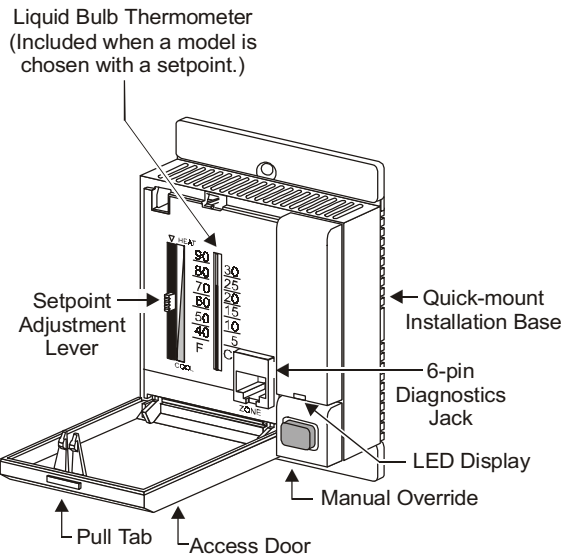

Figure 8: Accessing the Setpoint
Adjust the setpoint using the setpoint adjustment lever shown in Figure 8. To open the access door, push down on the pull tab, and pull the door open.
When the HE-67xx is used with a Johnson Controls digital controller, proper operation of the system can be verified using a laptop with HVAC PRO commissioning tool software, a Palm™ compatible handheld device using Variable Air Volume Modular Assembly Balancing Tool (VBT) software, or a Zone Terminal (ZT). All diagnostic devices plug into the 6-pin Zone Bus jack on the front of the HE-67xx (Figure 8). Follow the procedures outlined in the *HVAC PRO User's Manual* or the *Zone Terminal User's Manual*.